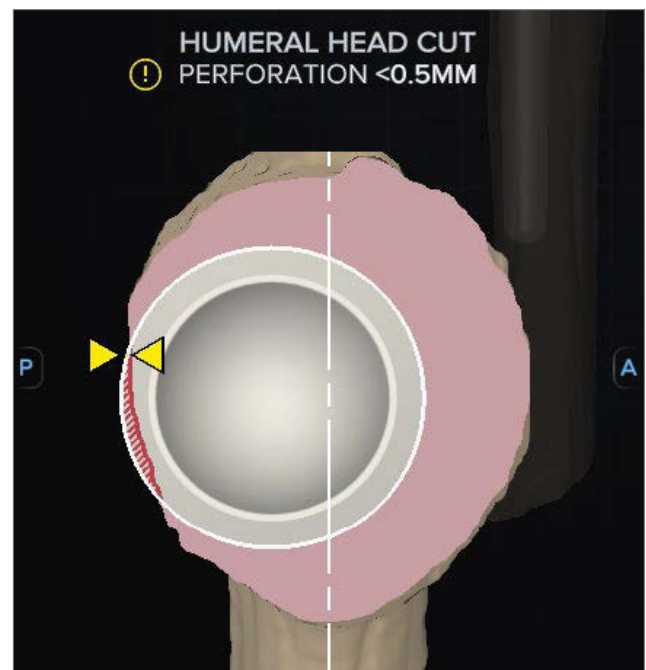

Figure 63. Suture cup perforation warning
- If the user selects a suture cup size or type when planning a reverse that violates the humeral cortex, a warning will appear in the collapsible central panel (Figure 63).